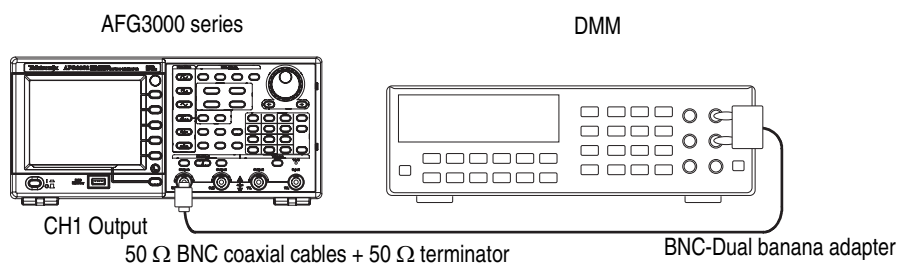

Figure 5-2: LF adjustment
1. Connect the arbitrary/function generator to the DMM as shown in Figure 5-2.